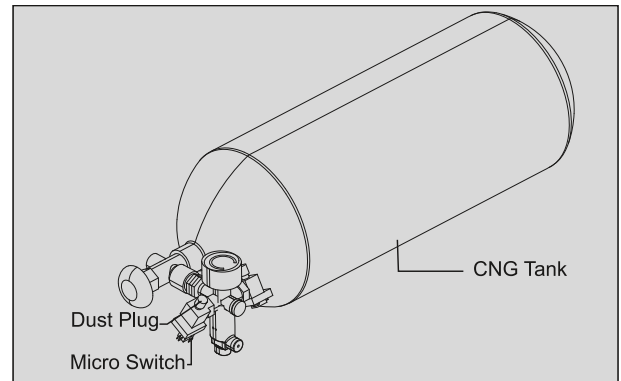

Fig. 6.76
- The micro switch is a safety function device which cuts off ignition if the dust plug is not inserted completely into the filler unit in first stage reduction unit. The dust plug presses the switch which opens the contact grounds the TCI unit to body causing function of spark plug.(Fig. 6.76)
- Set the multimeter position continuity inspection mode, Connect the multimeter '+ve' probe of the multimeter to the Black(B) and '-ve' probe of the multimeter to the Black with white tracer (BW).